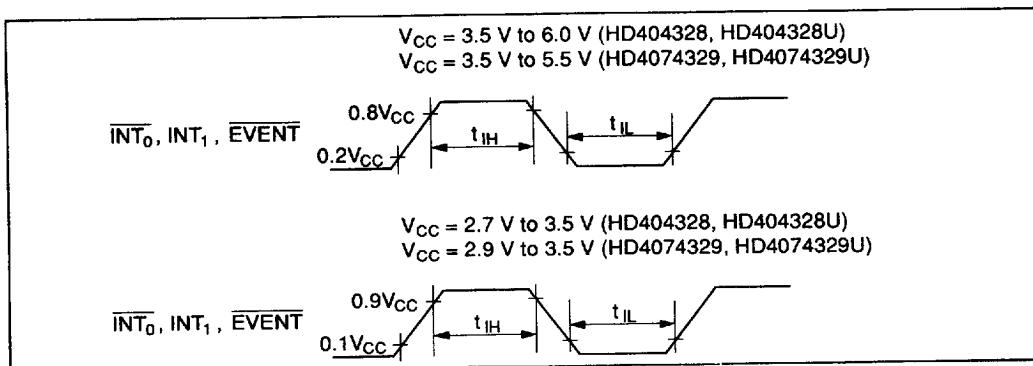

Figure 50 Interrupt Timing
5. Refer to figure 50. The t_{cyc} unit applies when the MCU is in standby or active mode. The t_{subcyc} unit applies when the MCU is in watch or subactive mode.